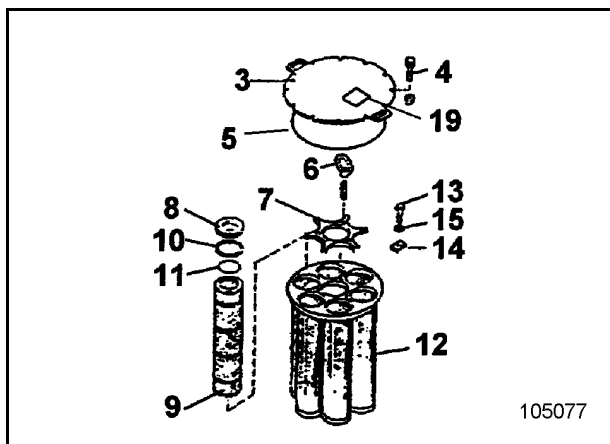

Fig. 3-78:
- Loosen screws (13, Fig. 3-78:) and take off spring clip (14) and disk (15).
- Remove basket (12) and clean in paraffin oil.
- Install basket (12).
- Insert filter element (9) together with sealing ring (11) and cap (8) with sealing ring (10).
- Refit cover (3).